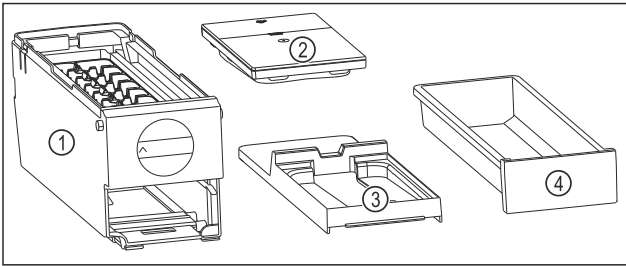

Fig. 107 Components of the EasyTwist-Ice
- ▶ EasyTwist-Ice is dismantled into four parts. (see Fig. 107)
- ▶ Only dismantle the EasyTwist-Ice into the components shown. (see Fig. 107)
- ▶ Clean the EasyTwist-Ice body Fig. 107 (1) as a whole.